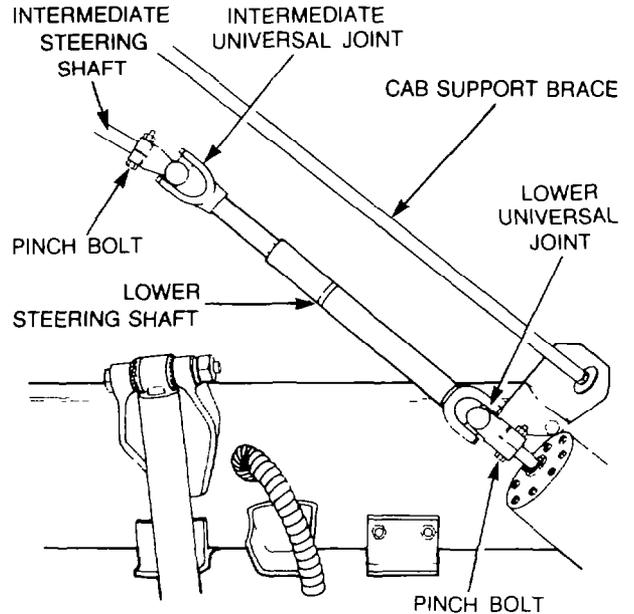

Figure 316 — Steering Shaft — Removal
- g. Remove the pinch bolt securing the lower steering shaft universal joint yoke to the intermediate steering shaft (see Fig. 316), then slide the yoke away from the intermediate shaft.